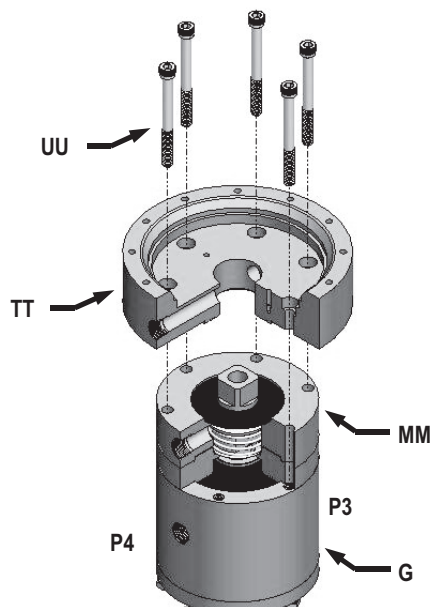

Figure 27
Step 47: Bolt the Lower Feedback Chamber (TT) on top of the PID Spring Spacer (MM), as shown in Figure 27, using 6, 1/4-20 x 2 1/2" SHCS (UU).